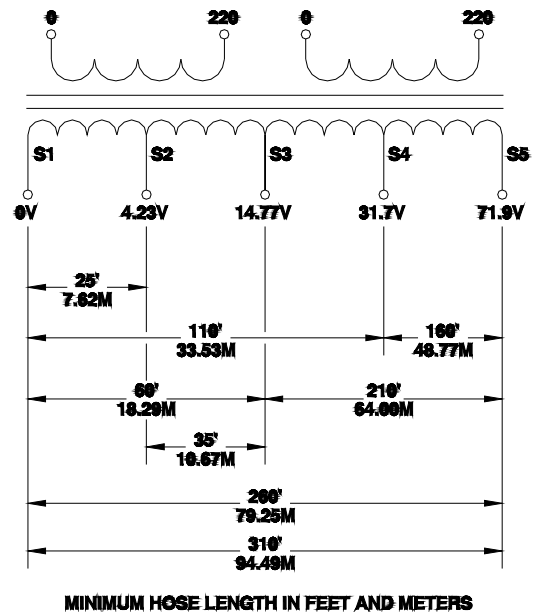

Figure 14. Transformer Tap Settings
1. Set the tap on the Hose Heat Transformer in accordance with Figure 14.
IMPORTANT: The transformer voltage must be set to match the hose length used. Too much power will cause the circuit fuse to open and too little power will result in insufficient hose heating. (See Figure 14)